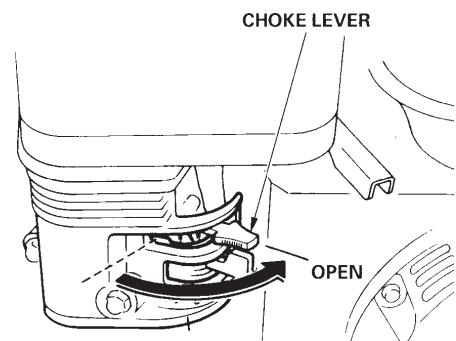

Figure 19. Engine Choke Lever (Open)
4. Place the ***choke lever*** (Figure 19) in the "OPEN" position if starting a ***warm engine*** or the ***temperature is warm***.
7. If the engine has started, slowly return the choke lever (Figure 19) to the **OPEN** position. If the engine has not started repeat steps 1 through 6.